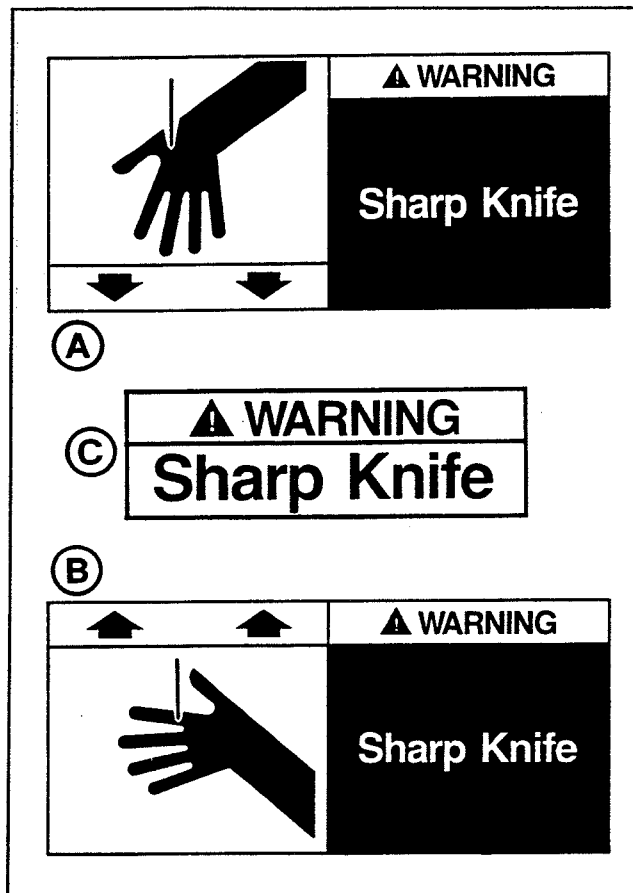

Figure 1-1 Knife Warning Labels
The two illustrated labels (A-B) "Warning Sharp Knife", shown in figure 1-1, are attached to the sides of the upper frame at the location of the cut-off blade on the upper taping head. Two similar labels are attached to the bed frame at the location of the cut-off blade on the lower tape head. The labels warn operators and service personnel of the very sharp knife used to cut the tape at the end of the tape application.
The "Warning - Sharp Knife" label (C), shown in figure 1-1, is attached to the orange cut-off blade guard on both taping heads. The label warns the operator and service personnel of the very sharp knife located behind the guard and to keep hands out of this area except for tape loading and/or servicing the taping heads.